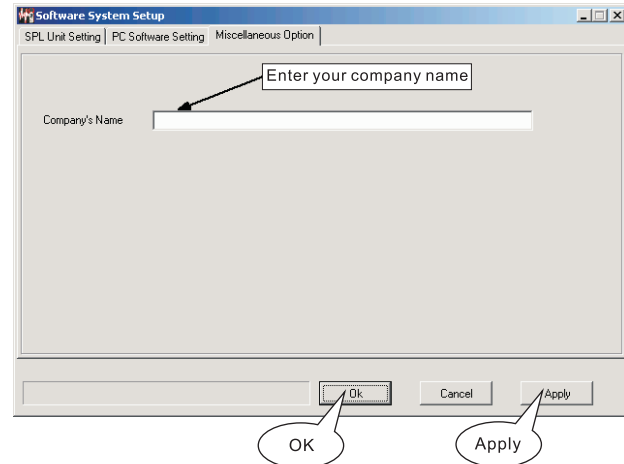

Figure 30
- Click option page Miscellaneous Option will enter into the window as shown in figure 30: (Click Apply or OK to confirm)